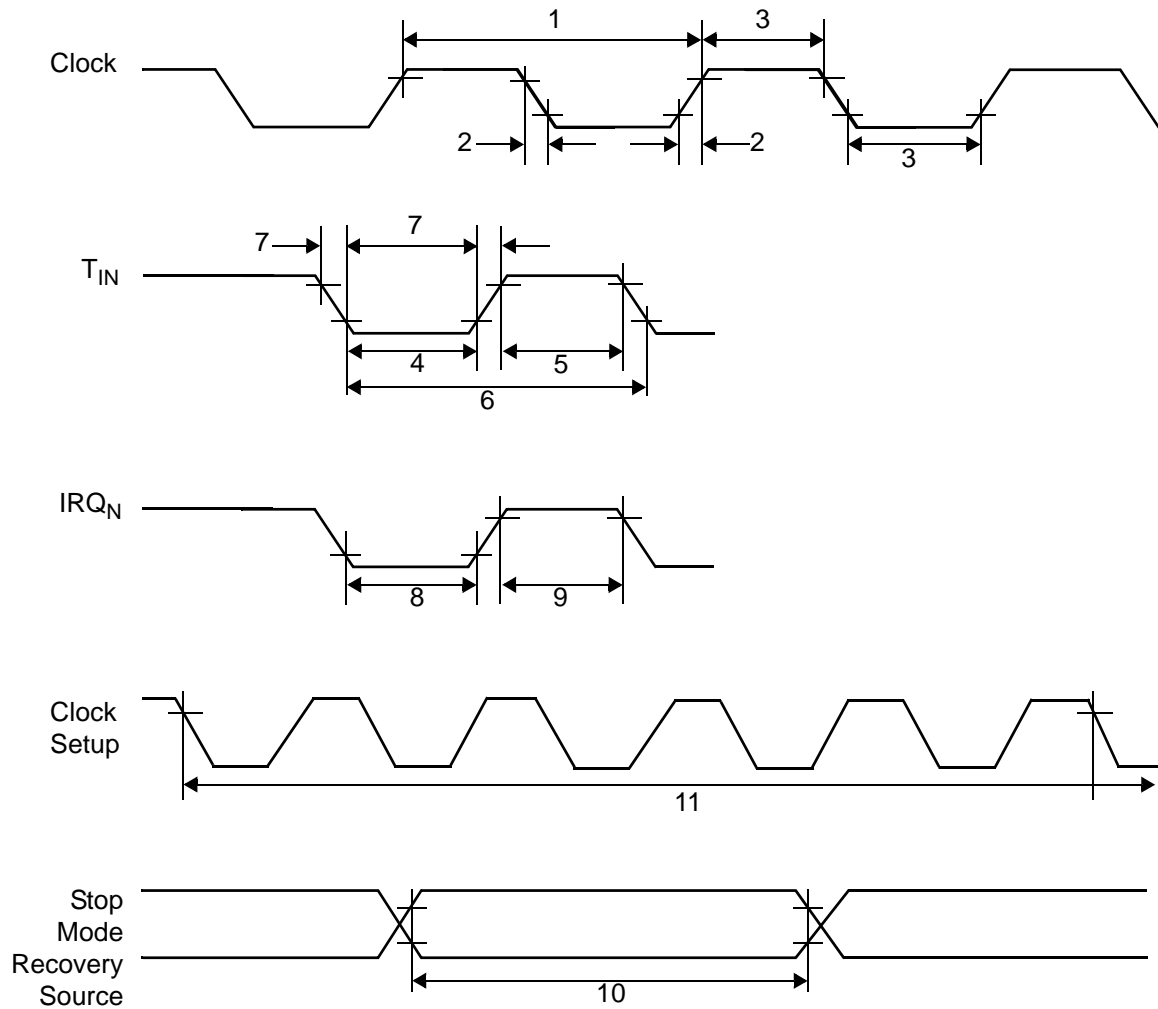

Figure 8. AC Timing Diagram
Figure 8 and Table 10 describe the Alternating Current (AC) characteristics.